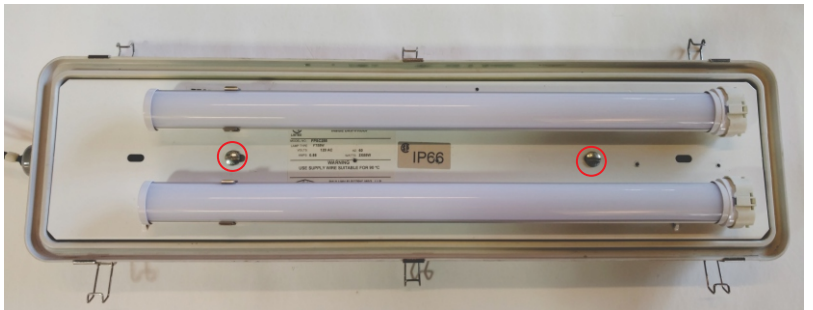

Figure 2
3. Remove the lamps and loosen the two screws indicated in figure 2 to release luminaire mounting plate.